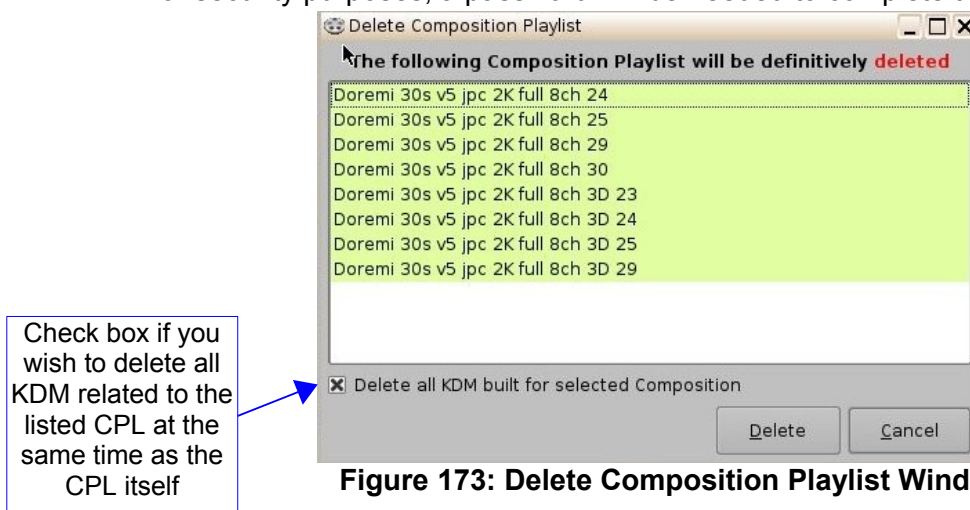

Figure 173: Delete Composition Playlist Window
- Check the box located at the bottom left corner of the window to delete all KDMs related to the selected Composition (Figure 173).